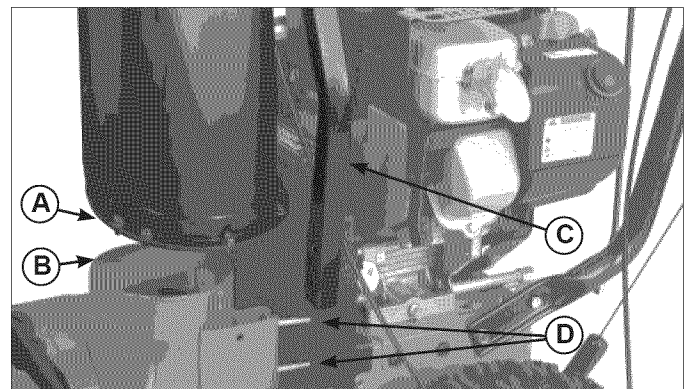
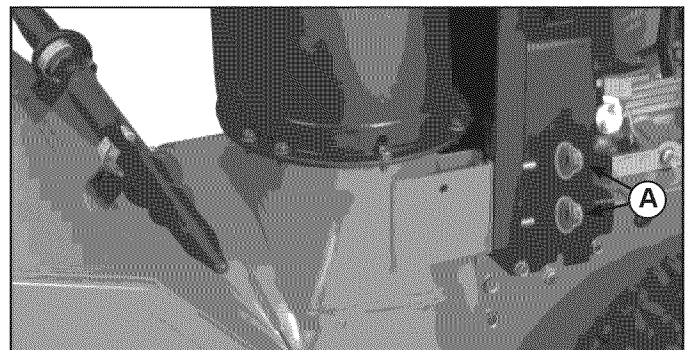

Figure 8. Chute and Rotator Assembly
Figure 9. Carriage Bolts
2. Slide the chute base (A, Figure 8) onto the auger housing (B).
3. Slide support tube (C) on the carriage bolts (D).
4. Thread two 3/8" flange nuts (A, Figure 9) onto carriage bolts and tighten with a 9/16" wrench.
Traction Lock Pins: (1100 Series Only) The right traction wheel can be completely released using the locking pin (see Figure 9). This allows the unit to be easily moved with the engine off.